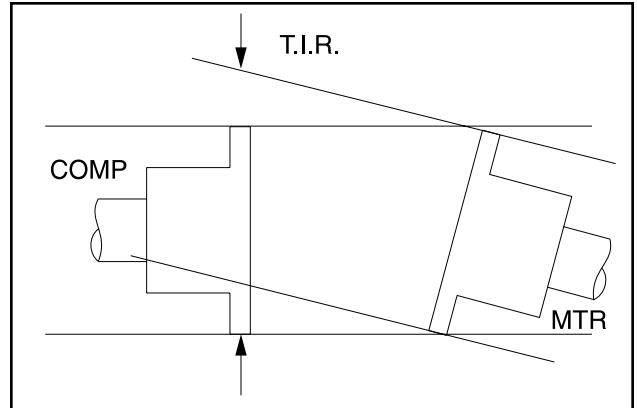
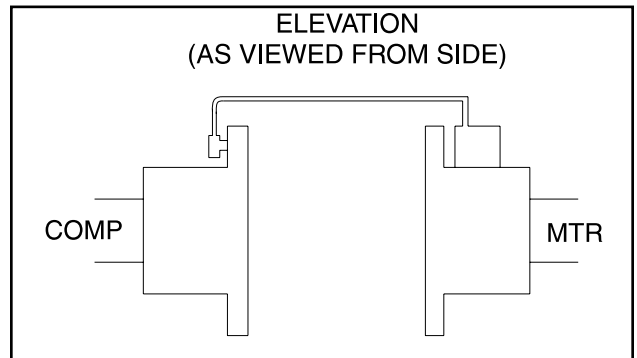

Figure 1 - Angular Misalignment
Figure 2 - Dial Indicator Attached (at 12 o'clock)
1. To check angular alignment, as shown in Figure 1., attach dial indicator rigidly to the motor hub. Move indicator stem so it is in contact with the outside face of compressor hub, as shown in Figure 2.
3. Set the dial indicator at zero when viewed at the 12 o'clock position, as shown in Figure 2.